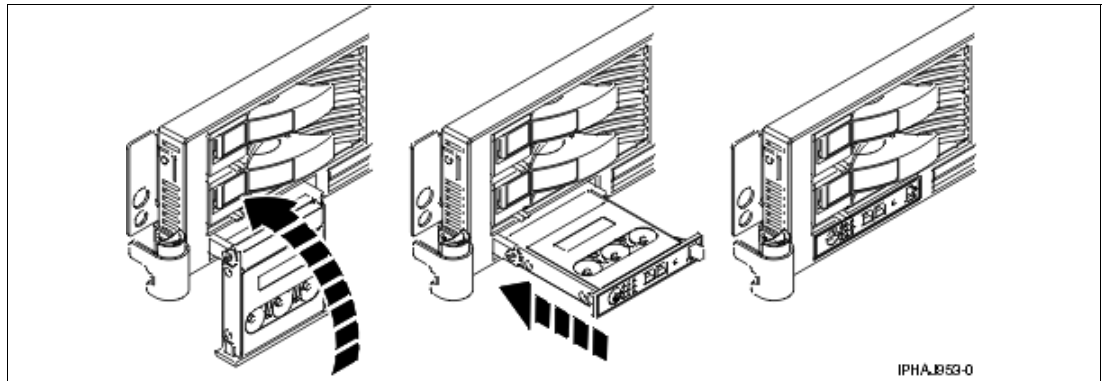

Figure 2-11 Restoring the p5-510 server control panel
- ▶ To move the control panel back into the device enclosure, lift the control panel up to align it with the opening and push it into place until you feel the tab lock. Refer to Figure 2-11 for details.